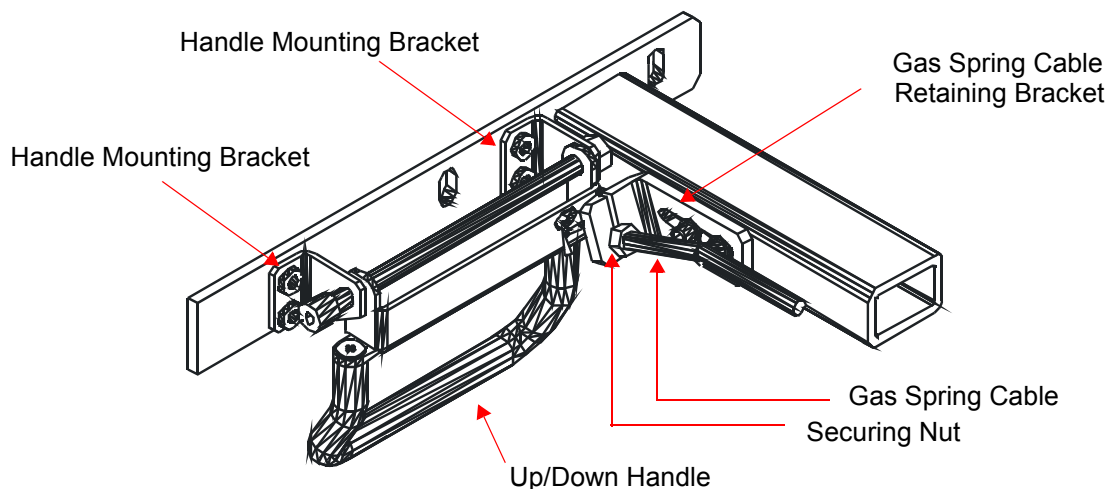
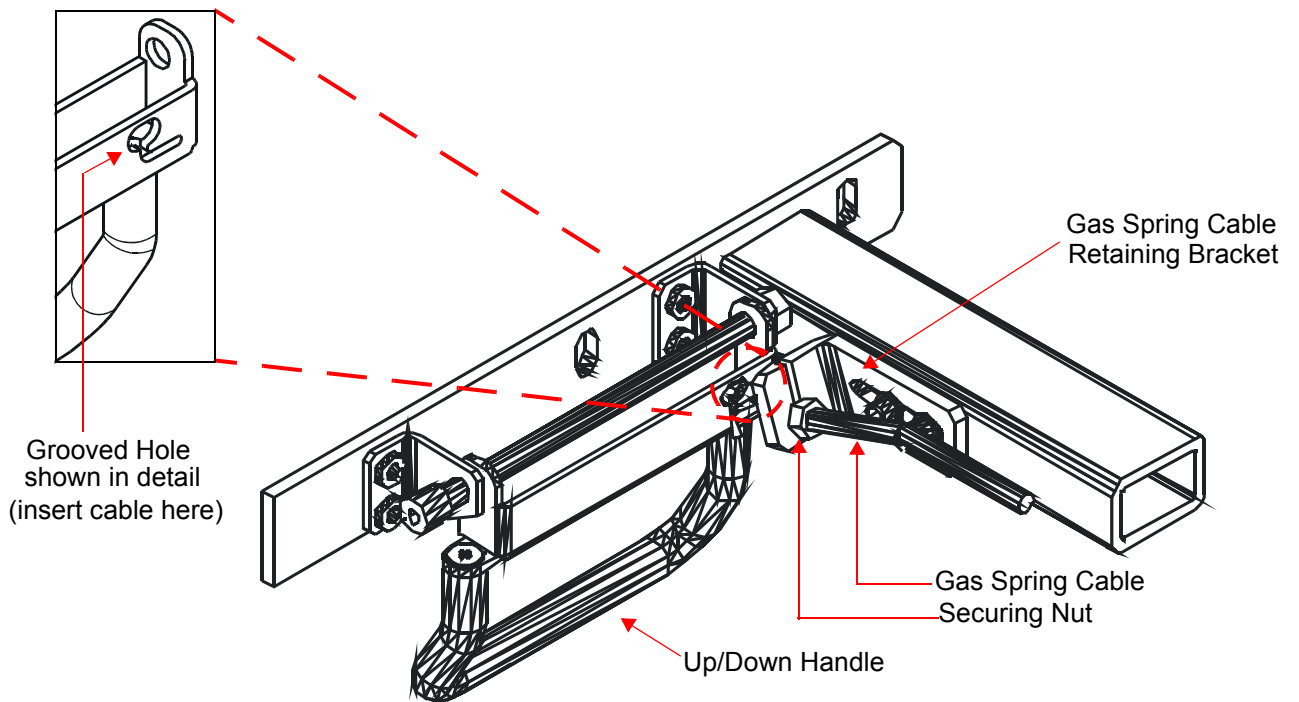
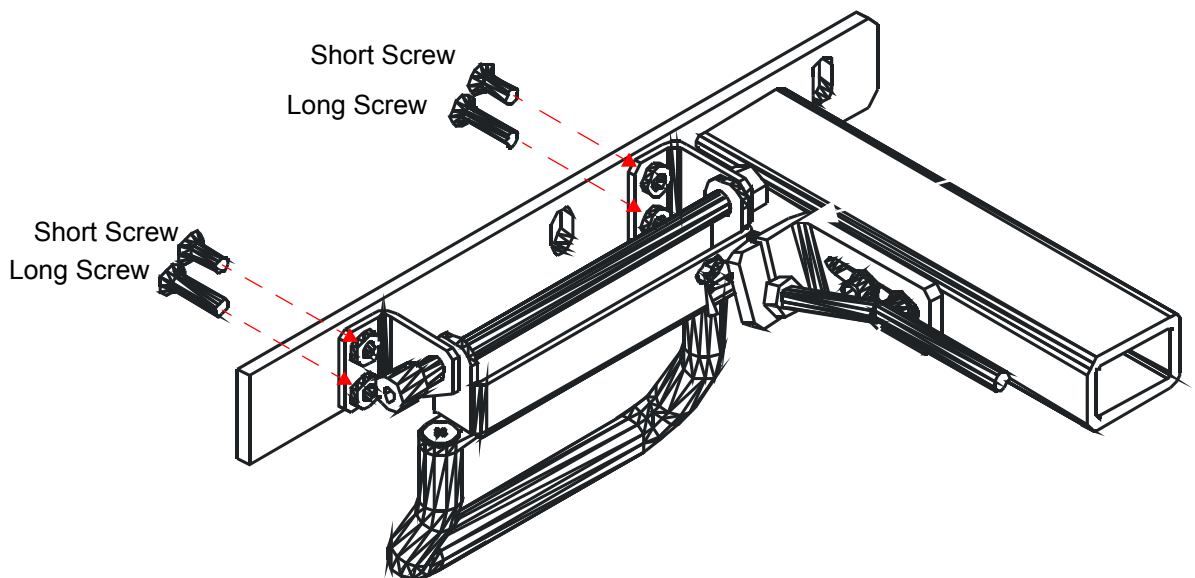

Figure 8-92 Up/Down Handle Securing Mechanism
Figure 8-94 Fitting Gas Spring Cable to Up/Down Handle
Figure 8-95 Mounting the Brackets onto the Chassis
- 4.) Release the gas spring cable by loosening the securing nut (shown in Figure 8-92 below). Slide the cable out of the retaining bracket and slide the end of the cable out through the slot on the handle assembly (see below, and refer to the detail in Figure 8-94 on page 8-109).
- 5.) Remove the four screws (two short and two long) that secure the handle mounting brackets to the chassis (see Figure 8-92, above) and remove the handle assembly. Refer also to Figure 8-95 on page 8-109.
- 3.) Insert the end of the gas spring cable through the slot on the gas spring cable retaining bracket and into the grooved hole on the Up/Down handle. Slide the end of the cable into the groove, carefully aligning the groove on the cable with that of the groove in the hole (see Figure 8-94 below). Tighten the securing nut against the gas spring cable retaining bracket, to hold the cable securely in position.
- 4) Mount the handle mounting brackets onto the chassis using one long and one short screw for each bracket, as shown in Figure 8-95. Tighten the screws to secure the brackets firmly in position.